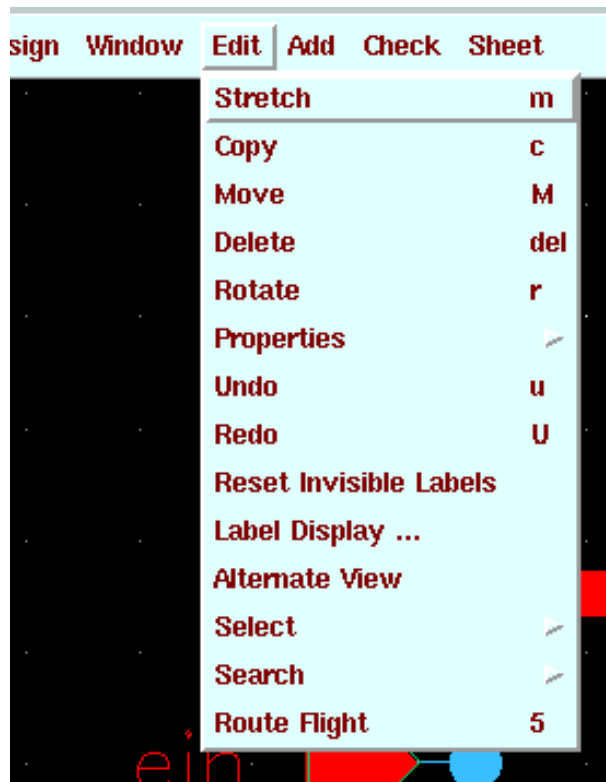

Figure 2.2: A menu banner with a pull-down menu.
This row contain one or more menu titles. A menu is a list of closely related commands. The menus in Cadence are of the pull-down type, i.e. they are not shown until the title is selected. Figure 2.2 shows what it might look like.
- When the command is solitary on the row, as *Move* in fig. 2.2 it is immediately executed.